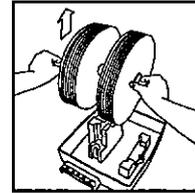

Fig. 44
- Remove the disc assembly from the basin by pulling the discs up, holding the center post at each end (Fig. 44). Clean the discs with mild detergent and water.